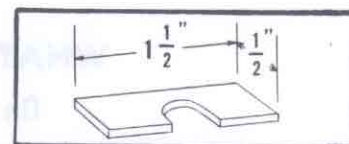

FIG. 2. Approximate shim dimension.
2. Level readings in the four positions must be identical. Compensate variations of bubble readings with thin metal shims placed around bolts between lathe legs and bench top until bubble readings are identical. See Figure 2 for approximate size of shim.